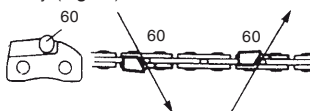

Fig. 45
File (60) cutter on one side of the chain from the inside out. File on forward stroke only. (Fig. 45)